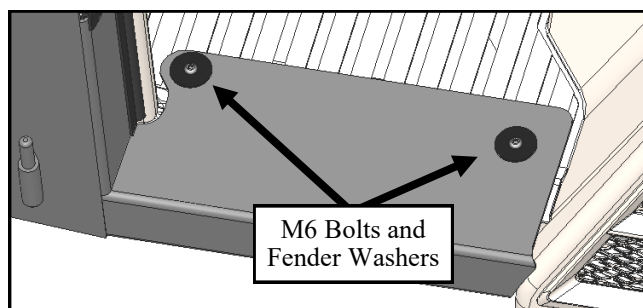

Fig. 3.10 (Left Side Floorboard)
- 3.10 Secure the bottom of the b-pillar to the floorboard with the hardware provided. See **Fig. 3.10**.